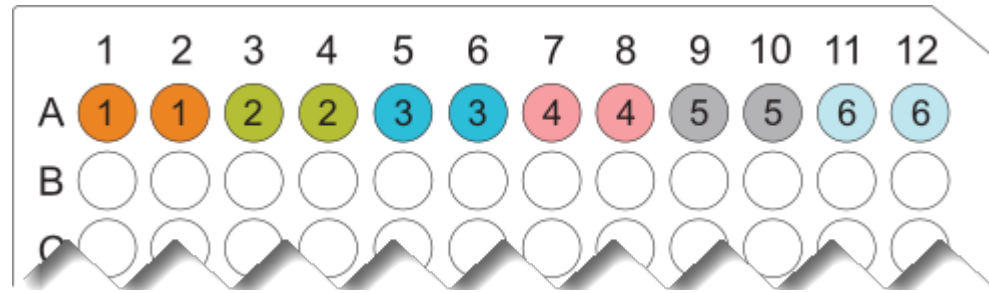

Figure 1 Example layout of a 96-well plate for the 64 assay format. Numbers in wells designate a sample, or an NTC.
2. Add 90 μ L of each sample (or NTC) to the designated wells of the plate, as shown in Figure 1.